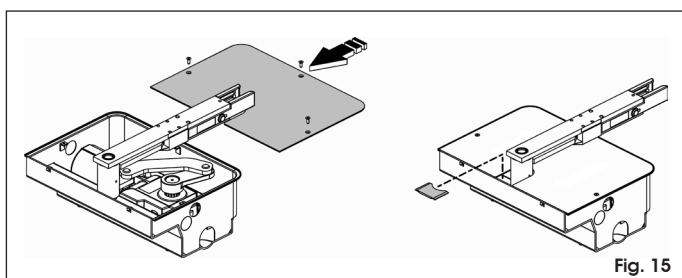

Fig. 15
4. Fasten the box cover by means of the screws supplied (Fig. 15).